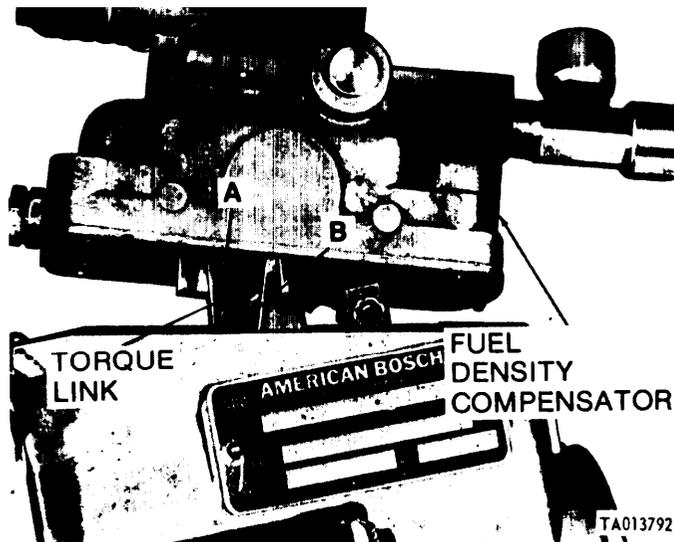

Figure 3-9. Removing fuel density compensator (code A pumps).
(3) Code A injection pump compensators. Refer to figure 3-9. Compensator 2910-125-3793 uses an additional fuel limiting stop. This stop (A) is attached to the torque link (b), and is furnished with new compensator.